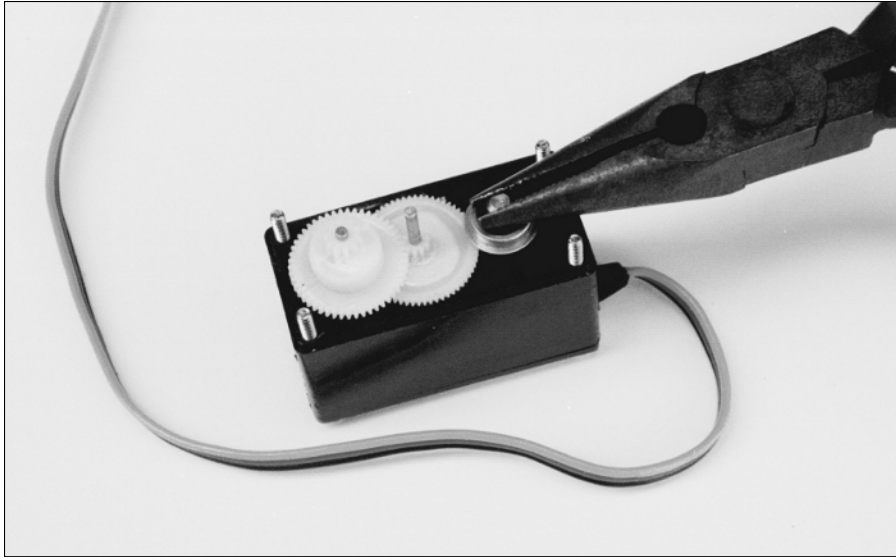

Figure 15-14:
- 7. Use a small pair of pliers to set the potentiometer at its center position, as you can see in Figure 15-14.**